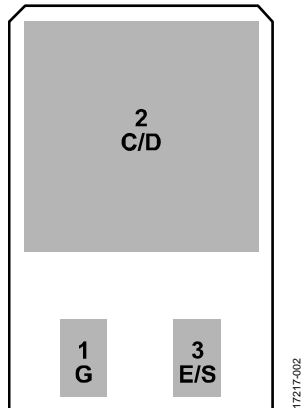

Figure 2. IGBT/MOSFET Footprint
- TO-247, TO-252, or TO-220 metal-oxide semiconductor field effect transistors (MOSFETs) or insulated gate bipolar transistors (IGBTs) (see Figure 2 for the transistor footprint) populate the Q1, Q2, and P12 pad placements. TO-252 is placed on Q1, TO-247 is placed on Q2, and TO-220 is placed on P12.